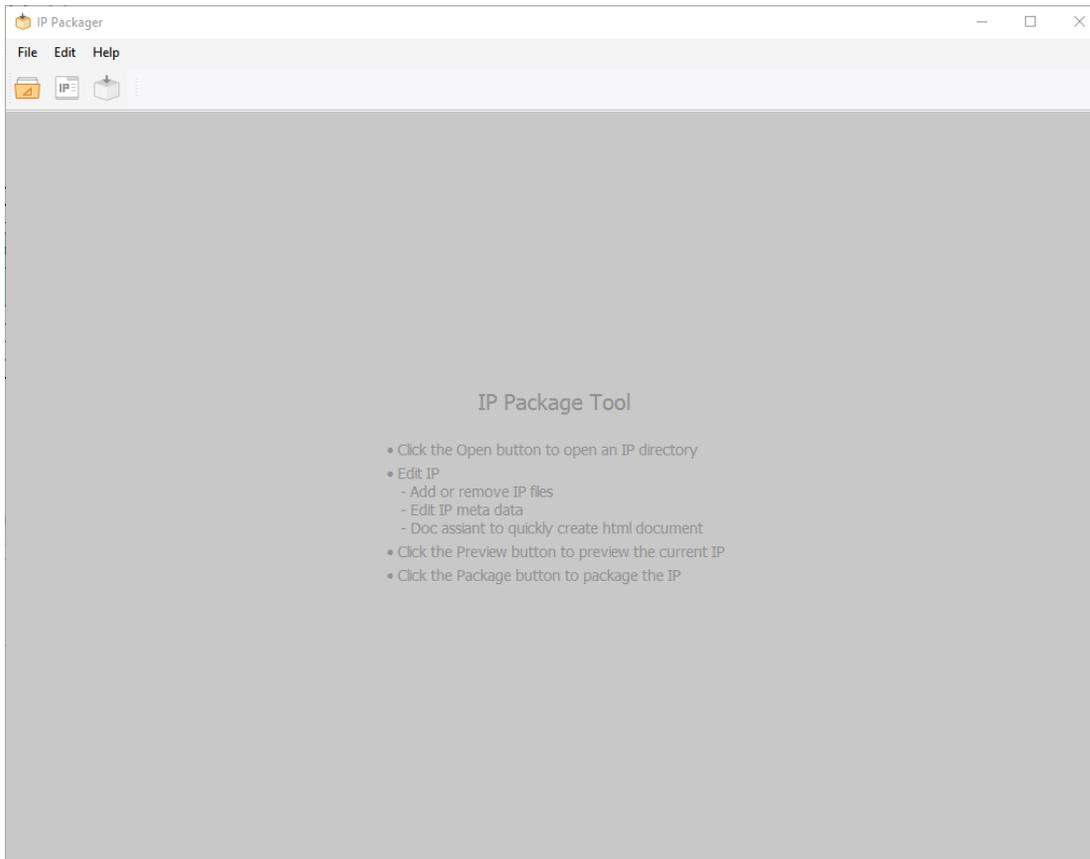

Figure 3.3. IP Packager GUI
2. IP Packager is launched (Figure 3.3).